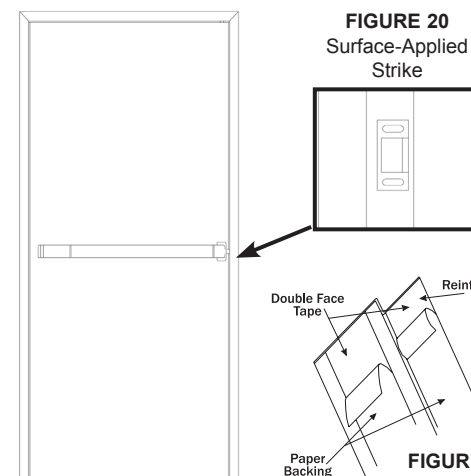

FIGURE 20
3. Drill and tap through frame and reinforcement for hardware attachment (Fig. 20).